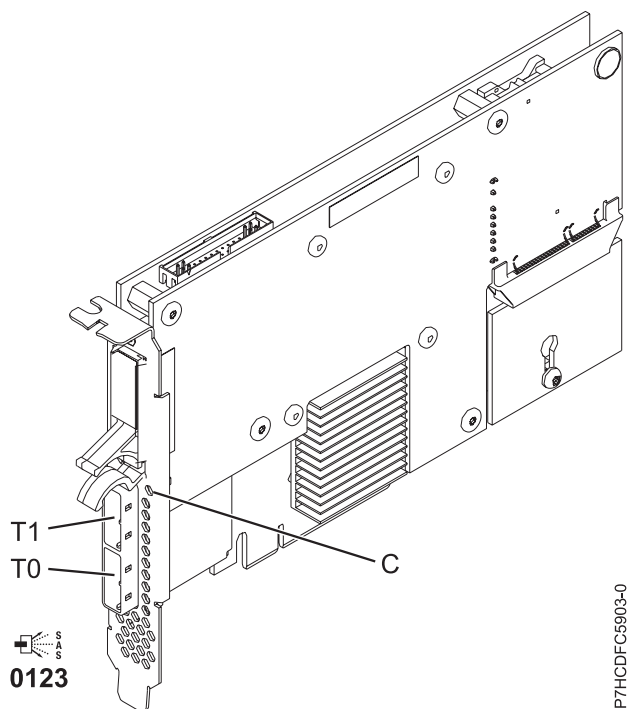

Figure 43. PCIe Dual - x4 3 Gb SAS RAID Adapter
The 5903 or 5805 contains a LED ((C) in Figure 43 on page 139) that flashes if the cache data is present. The cache-data present LED flashes when there is possible data in the cache on the adapter. If the cache data present LED is flashing, do not replace the cache battery pack. If replaced when the LED is flashing, the cache data is lost. See Figure 43 on page 139 to locate the cache-data present LED on this adapter.